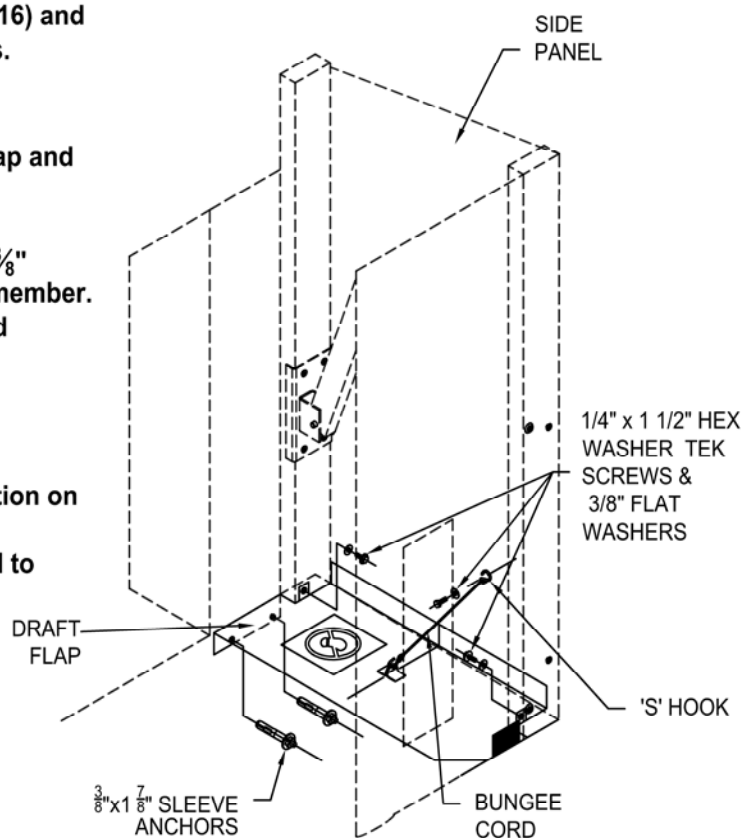

FIG. 16
- * Place draft flap into place (as shown in fig. 16) and use grommeted holes to mark hole locations.